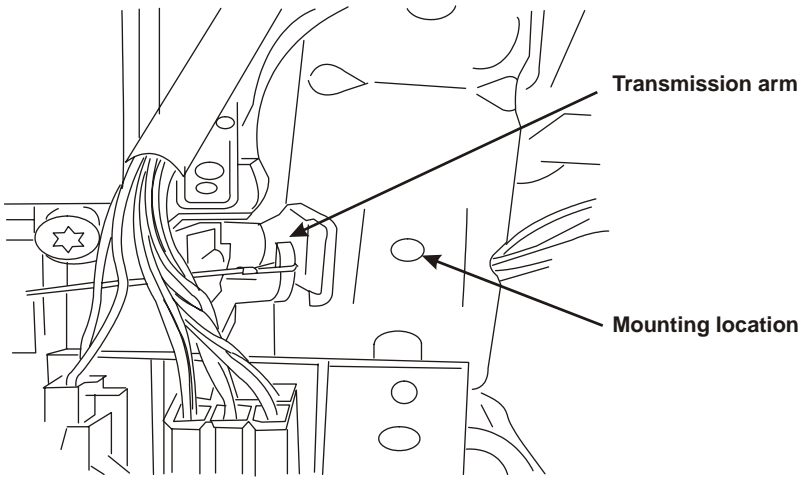

Figure 4.3
- ☐ Locate the OEM hole under the dash on the support near the transmission arm (Figure 4.3).